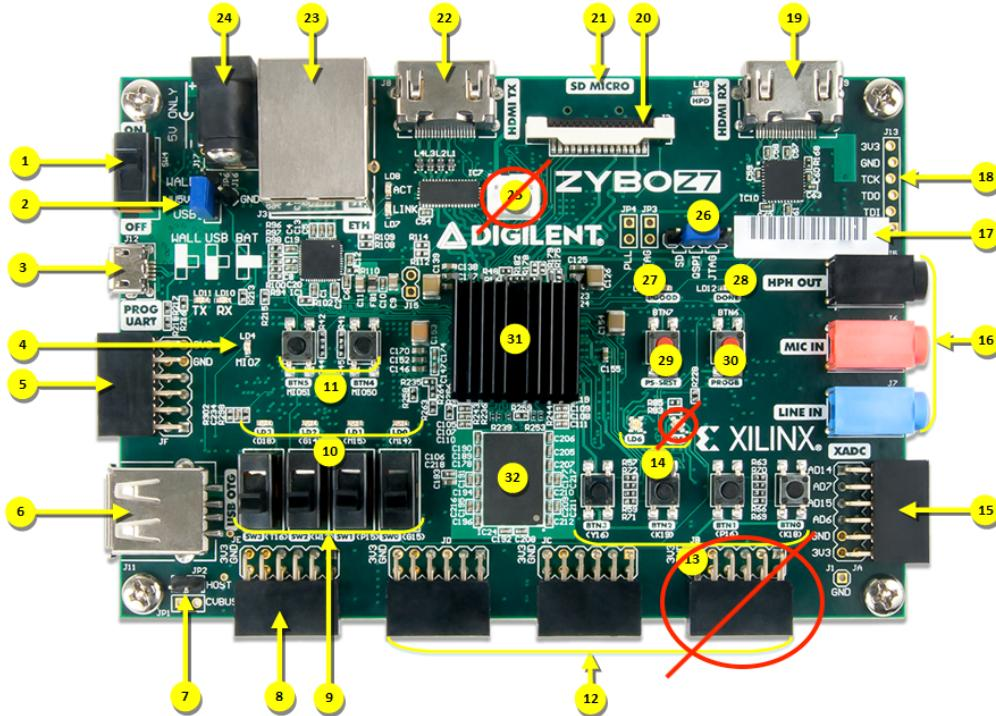

Figure 10: ZYBO Z7 picture callout – *Zybo Z7-20 pictured
6. For the later labs, we will be programming more complicated digital circuits into the FPGA board shown in Figure 10. Field Programmable Gate Arrays (FPGAs) provide a tremendous amount of re-programmable logic within a single IC package. The development board allows us to evaluate the
Table 1: ZYBO Z7 table callout (Figure 10) – *Zybo Z7-20 pictured